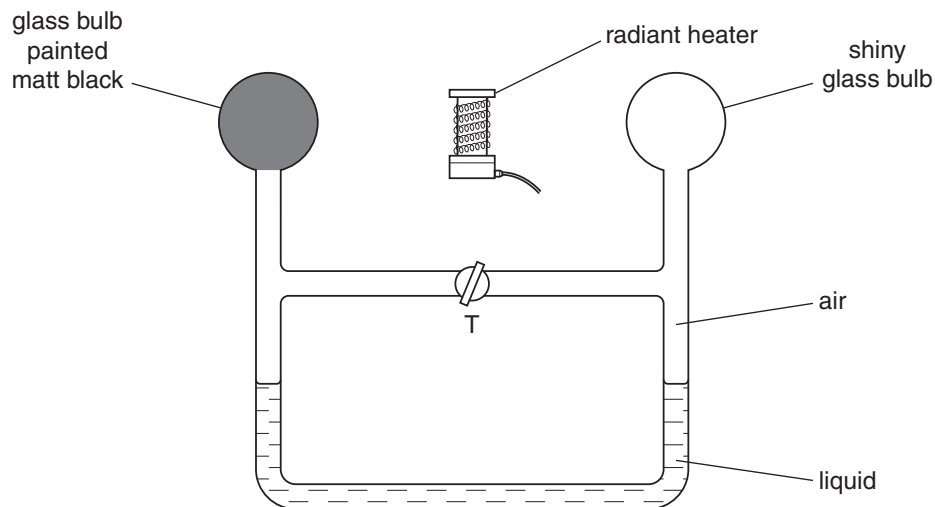

Fig. 4.1
- (b) The apparatus shown in Fig. 4.1 is known as Leslie's Differential Air Thermometer.
- (i) The heater is switched on. On Fig. 4.1, mark clearly where the two liquid levels might be a short time later. [1]